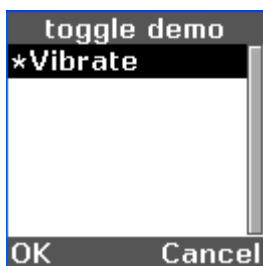

Figure 16 – Toggle Selected
Pressing the left softkey (OK) toggles the indicator, as shown in Figure 16, and turns on the vibrate feature of the MAH300. Pressing OK again turns off the indicator and the vibrate feature.